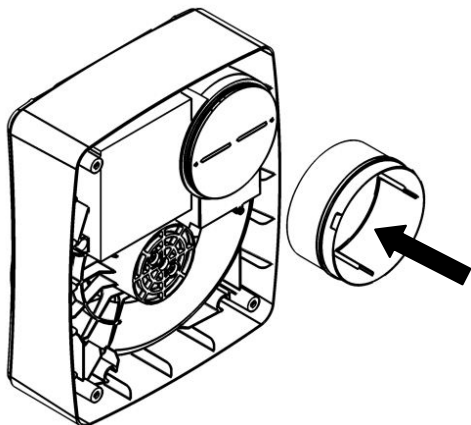

Fig. 3.
5. Attach the ducting to the Spigot and locate into the hole in the panel ensuring the Skirt is located correctly into the Base Housing. Secure into position using appropriate fixtures (Fig 3).
8. Using the Base Housing as a template, mark the fixing hole centres on the wall, carefully sliding the spigot into the Wall Liner. Secure the Base Housing into position using the screws and fixings provided ensuring the Skirt is located correctly into the Base Housing (Fig 3).